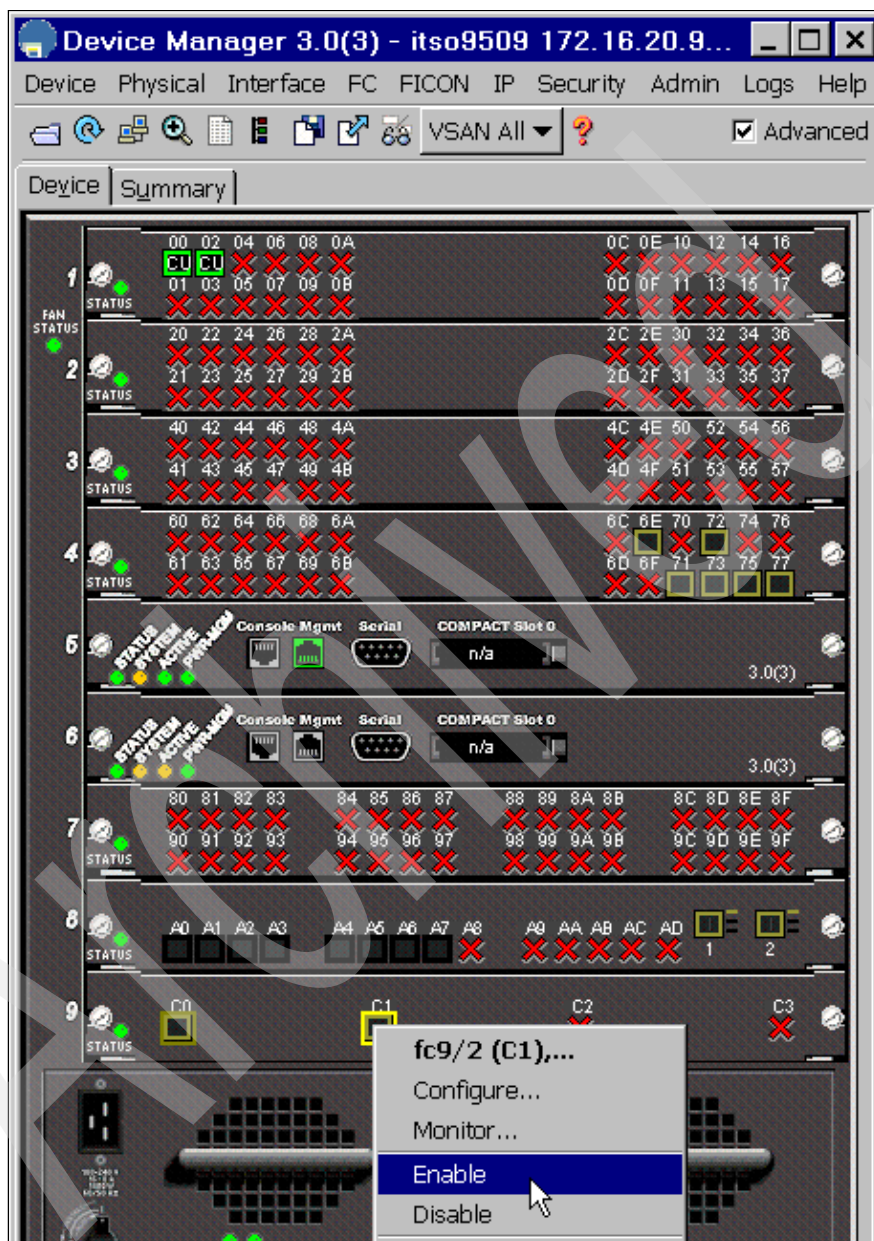

Figure 11 Enable E_Ports in Device Manager on the 9509
At this point we connect the interswitch links between the 9509 and the 9513 as shown in Figure 11 on page 15. This enables us to manage both the 9509 and 9513 switches in the FICON cascaded fabric concurrently.
2. We then right-clicked and selected **Enable** from the context menu (Figure 11).